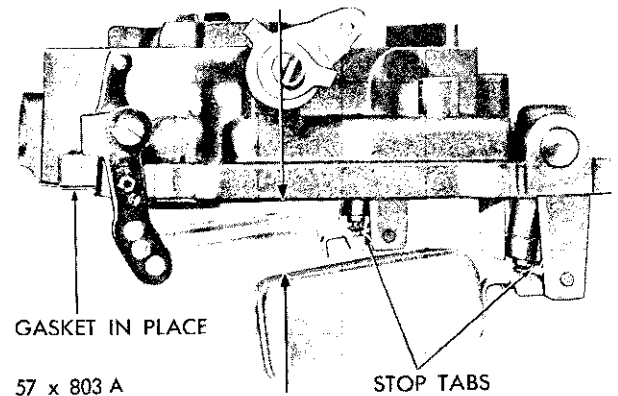

Fig. 32—Checking Float Drop
(1) Holding the air horn in an upright position, measure the distance from the top of the floats (outer end) to the air horn gasket, as shown in Figure 32. This measurement should be 3/4 inch. If an adjustment is necessary, bend the stop tabs on the float levers until the correct drop setting has been obtained. Bend the tab towards the needle seat to lessen the drop, or away from the seat to increase the drop.
(2) After the floats have been checked and adjusted, continue to assemble the carburetor as follows:
(3) Place the accelerator pump plunger lower spring in the pump cylinder, then lower the air horn carefully down on the main body.